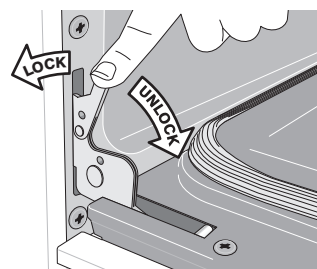

Figure 25: Door hinge locks
2. Pull the door hinge locks on both left and right door hinges down from the oven frame completely towards the oven door (See Figure 25). A tool such as a small flat-blade screwdriver may be required.
4. Push the door hinge locks up towards and into the oven frame on both left and right oven door hinges to the locked position (See Figure 25).